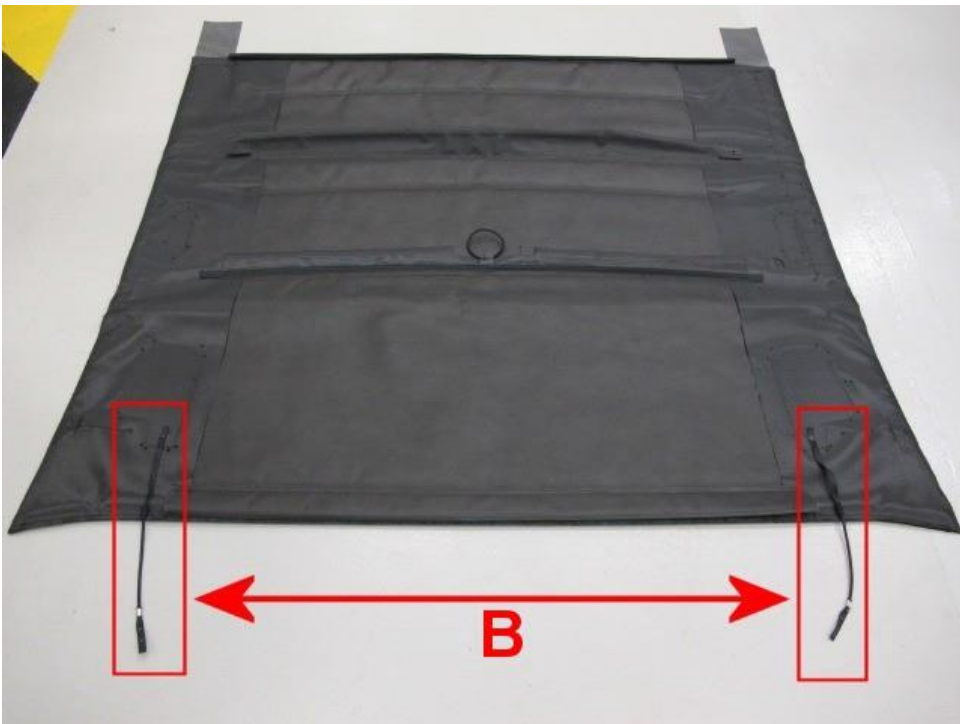

Figure 3
- Referring to Figure 3 - Check and confirm the tension straps are fitted to the insulation pad as shown